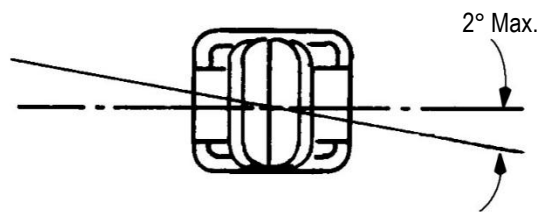

Figure 9
(1) There may not be any twist or roll in crimped portion of contact that could impair its use. See Figure 9 for limits.